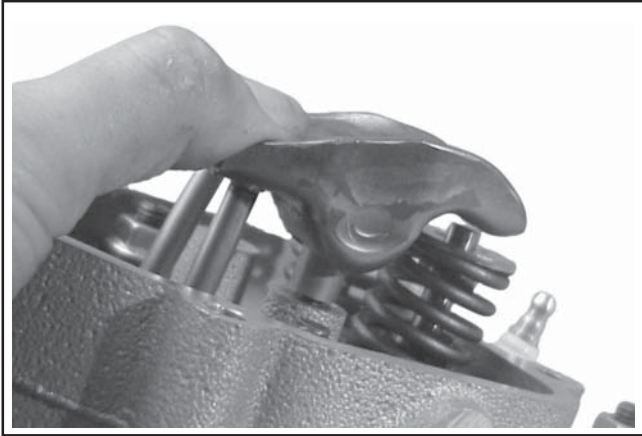

Figure 11-33. Depressing To Bottom Limit of Lifter Plunger Travel.
9. Manually depress the push rod end of the rocker arm to the bottom/limit of the lifter plunger travel. The opposite end of the rocker arm should be directly over the end of the valve. **Hold in this position for the next two steps (10 and 11), do not release.** See Figure 11-33.